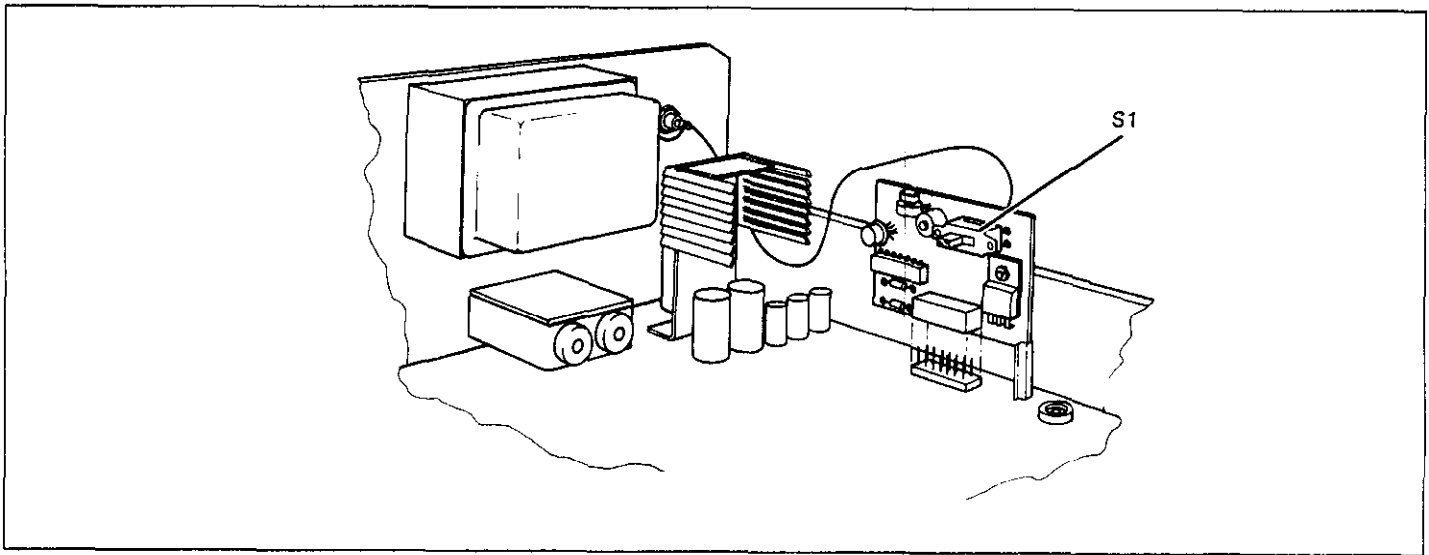

Figure 6-1A. Model 775A Standard 5 ppm Time Base
2. For the standard 5ppm time base locate switch S1 on the timebase board and slide it to the EXT position. See Figure 6-1A for the location of S1. The EXT position is with the switch towards the front of the Model 775.A